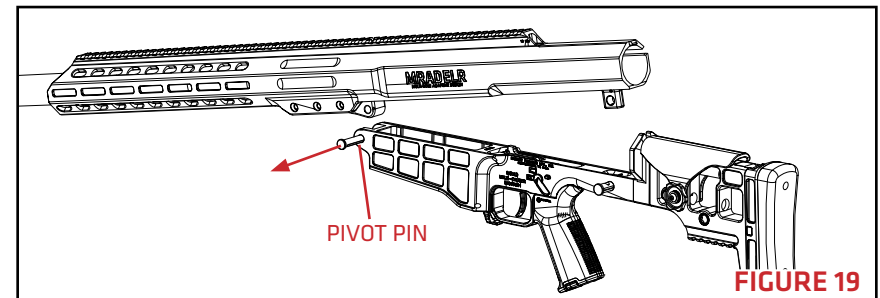

FIGURE 19
5. Push the pivot pin from the ejection port side of the rifle to separate the upper and lower receivers (**FIGURE 19**).